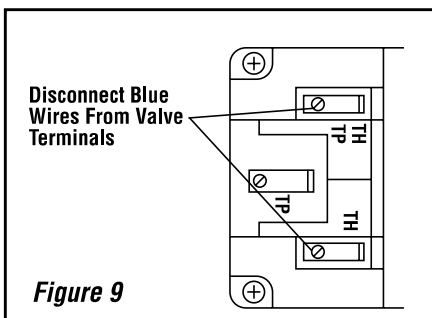

Figure 9
10. Disconnect the two burner circuit wires from the valve terminals (see **Figure 9**).